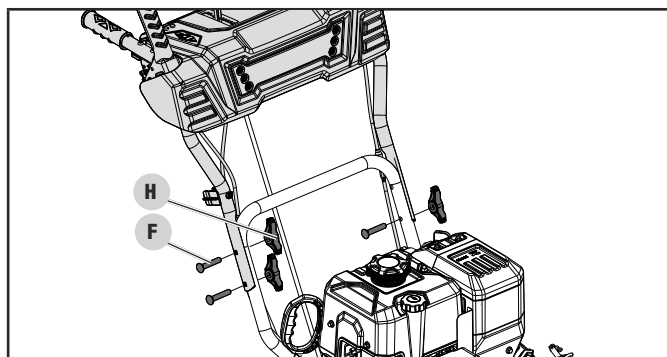

Figure 4
3. Connect the upper and lower handle with bolts (F), and locking knobs (H) (Fig. 4). Torque until snug. Do not overtighten.